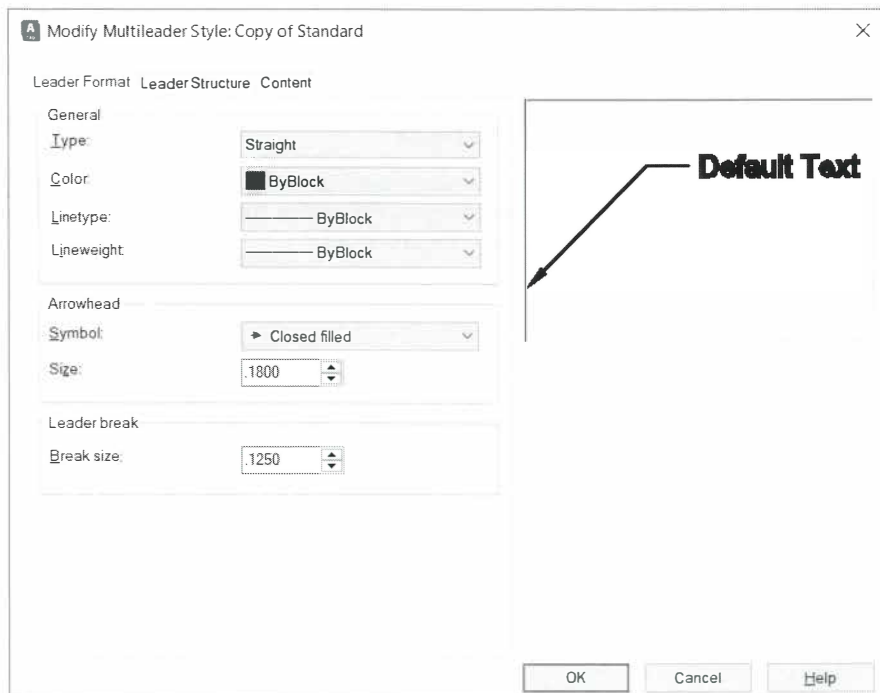

Figure 9–20
- In the *Leader Structure* tab, specify how you want the leader to work, as shown in Figure 9–21. For example, the default leader style has the *Maximum leader points* set to 2 and *Landing Settings* toggled on. Select **Annotative** if you are using the annotative scaling tools.